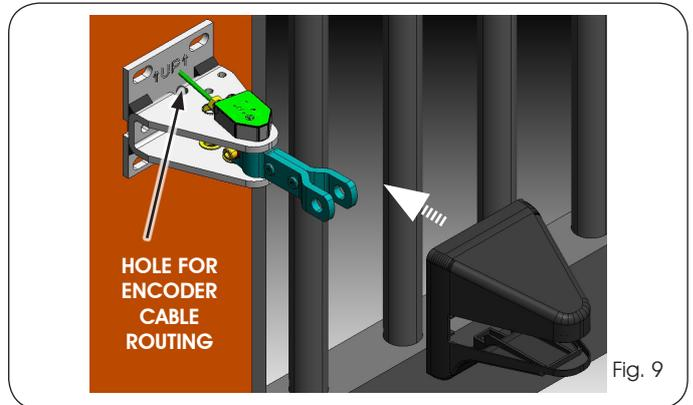

Fig. 9
4. Slightly press the protection cover on the rear bracket to install it (Fig. 9).